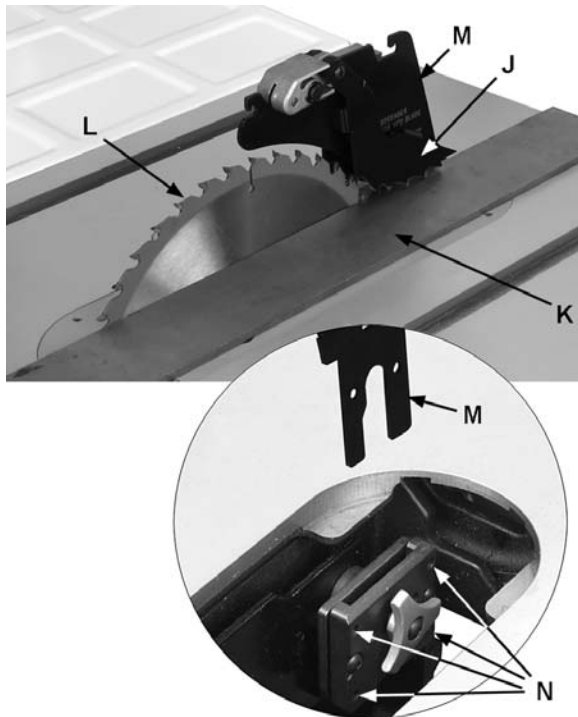

Figure 17
Referring to Figure 17:
3. Move straight-edge aside, and through the opening locate four *set screws* (N) at the corners of the clamp block. See inset, Figure 17 (ripping knife removed for clarity).